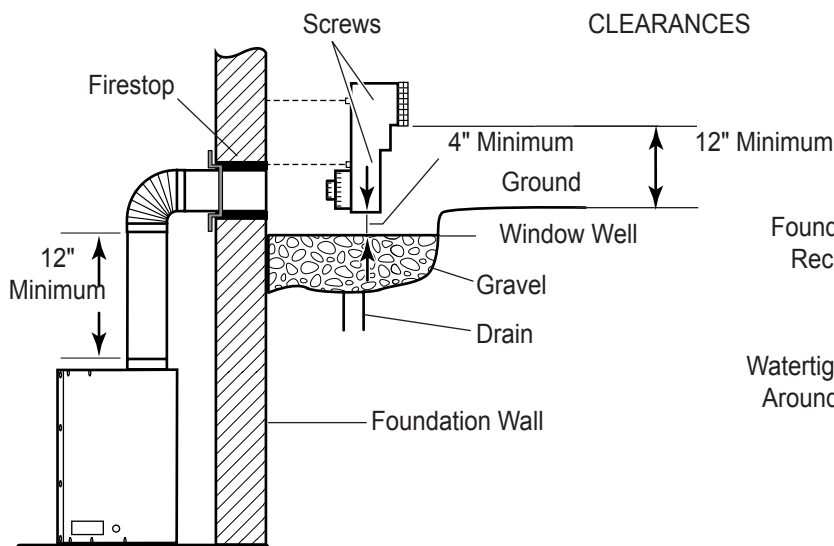

Figure 23 - Below Grade Installation
7. Level the soil so as to maintain a 4" clearance below snorkel. *See Figure 23.*